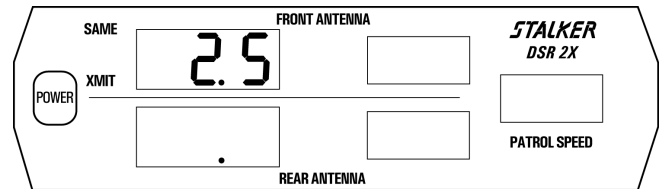

Fig. 53
To perform the tuning fork test: press the **PWR** key, press the **MOV/STA** key and select stationary mode, press the desired Target Zone key to enter transmit mode. Press the **TEST** key and wait for the tuning fork mode following the internal test sequence. Strike the 25 mph tuning fork against a hard nonmetallic surface, such as the heel of a shoe. Quickly hold the tuning fork approximately two (2) inches in front of the antenna, with the narrow edge of the fork facing the antenna. The target window should indicate 25 ± 1 mph (40 kph) (Fig. 53).